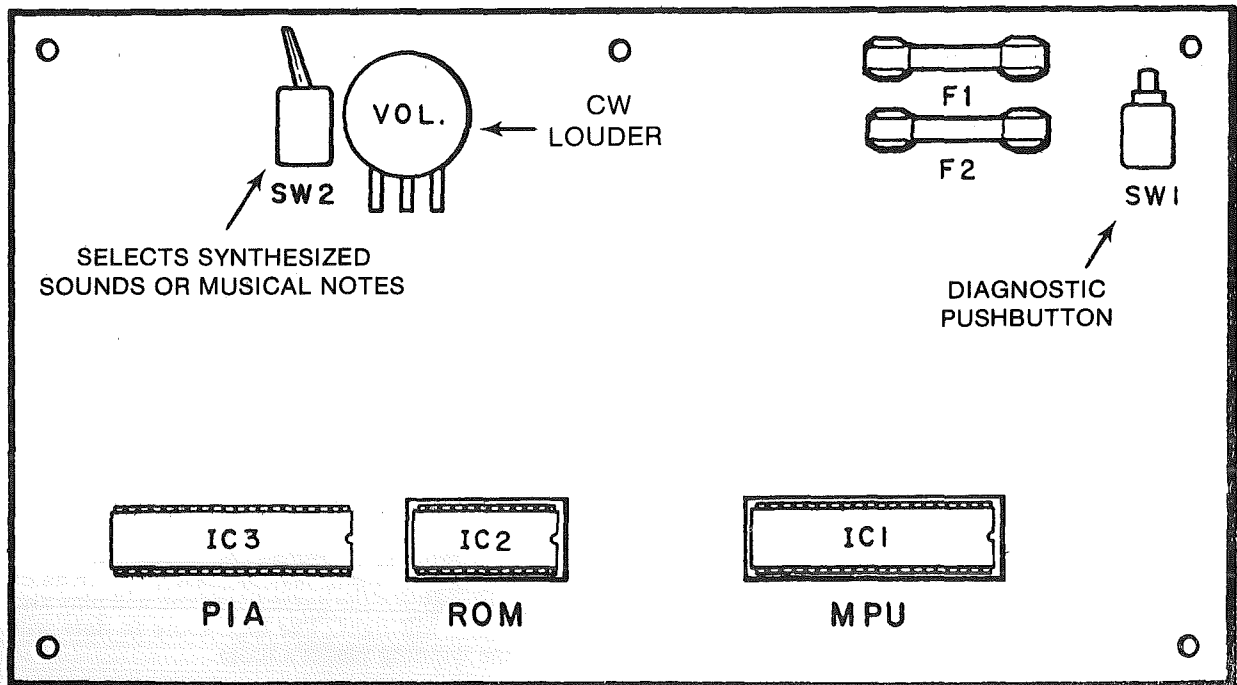

Figure 4. Location of Key Components on Sound Board
13. Gently press on the socketed IC packages on the Sound Board (Figure 4).